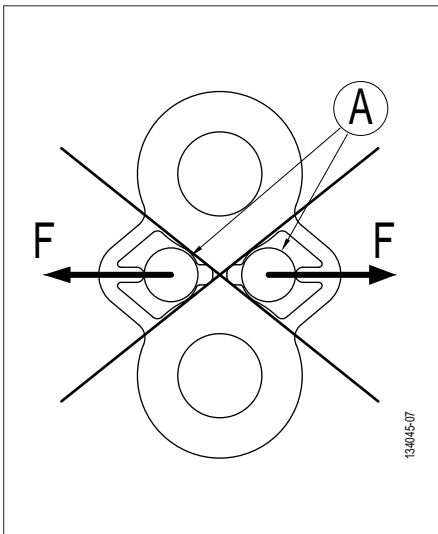

Fig. 5
DANGER: It is strictly prohibited to fasten shackle pins to the brace arms (fig. 5, page 12).
6. Secure the test plate by its brace arms (see fig. 5, page 12).